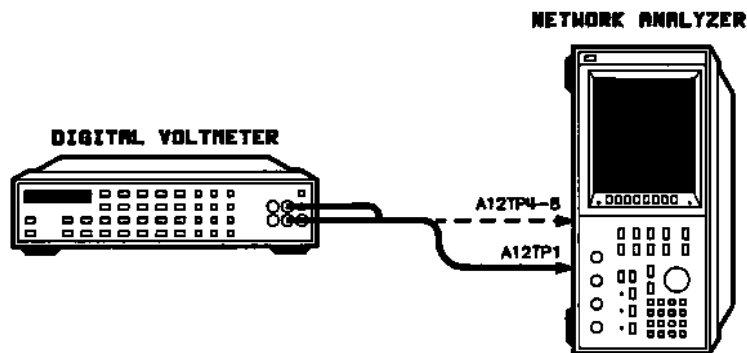
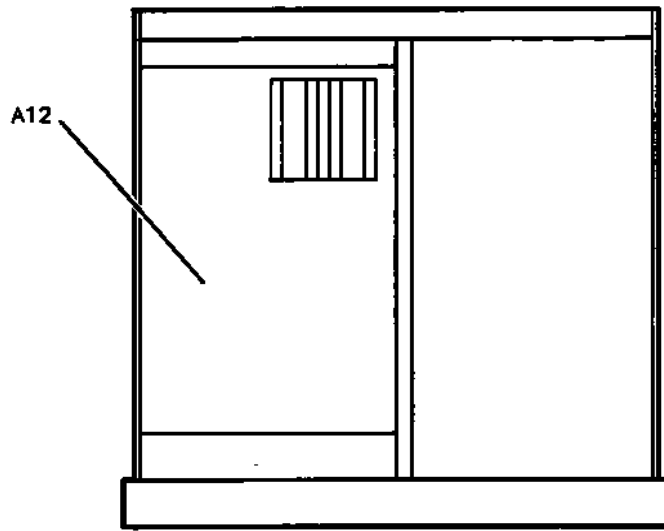
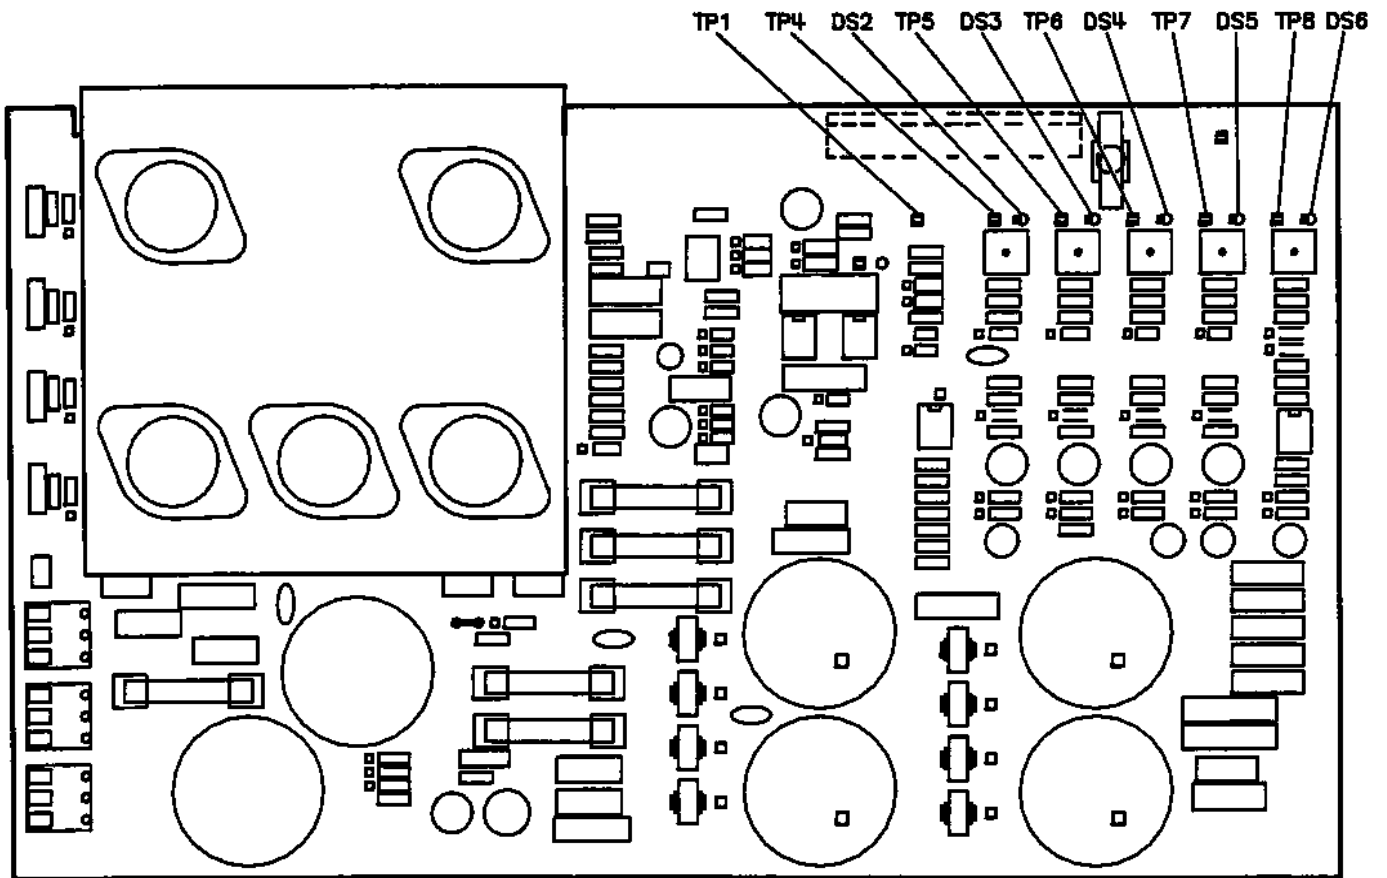

Figure 5-1. Power Supply Adjustments Set-up
Figure 5-2. A12 Assembly Location
Figure 5-3. Power Supply Adjustment Locations
2. Position the analyzer on its side (see figure 5-1). Remove the analyzer bottom cover by removing the screw from the center of the rear portion of the cover (beneath the fan). Slide the bottom cover off.
3. Connect the equipment as shown in figure 5-1 with DVM LO connected to A12TP1 (GND). Figure 5-2 shows the location of the A12 PC board in the analyzer and figure 5-3 shows the adjustment locations on the A12 PC board.